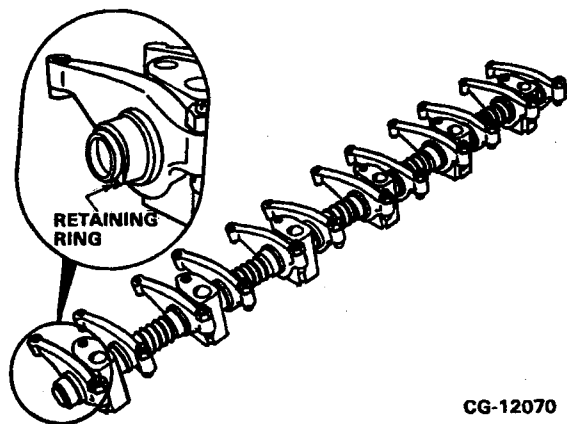

Figure 5.3. Remove Retaining Ring from Shaft
2. Using a snap ring tool, remove the rocker arm retainer ring at the end of the shaft. Refer to Figure 5.3.